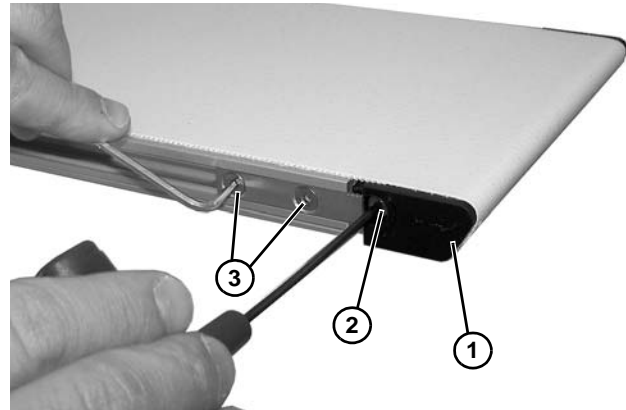

Figure 27
- On tension end of the conveyor, adjust idler end (**Figure 27, item 1**) tracking cam (**Figure 27, item 2**) just enough to remove slack in the belt.
- Tighten screws (**Figure 27, item 3**) to 12 in-lb (1.4 Nm).